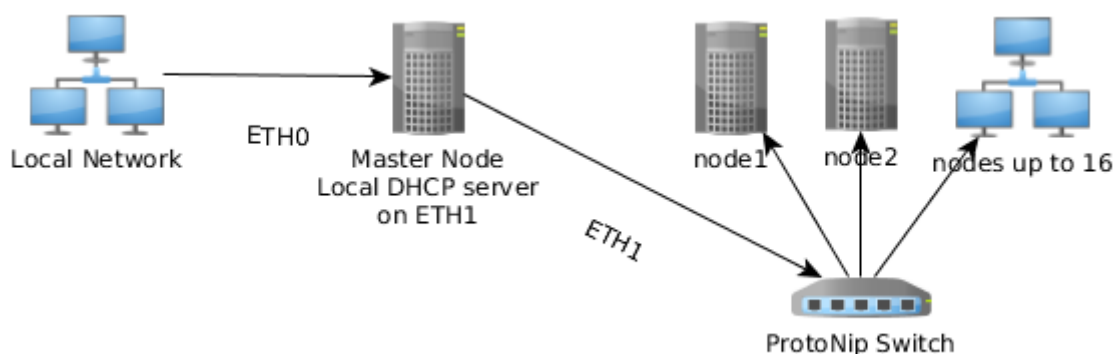

Figure 4-1: Local Area Network setting for ProtoNIP machine
6. Wire the Ethernet connections as shown in Figure 4-1